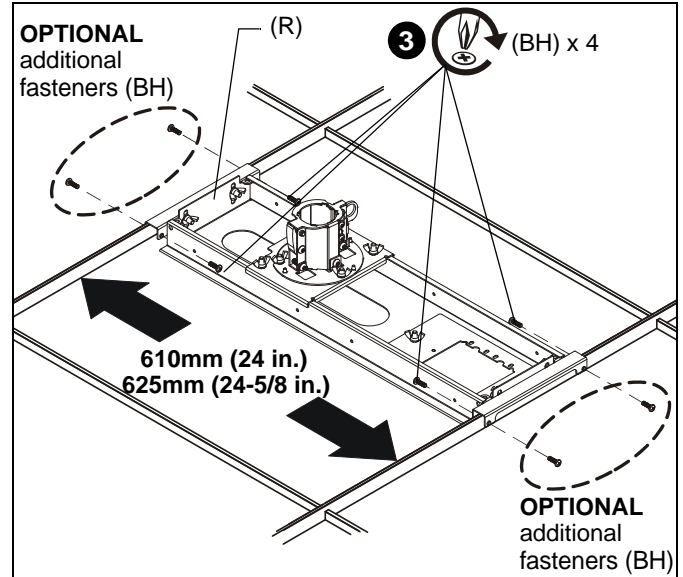
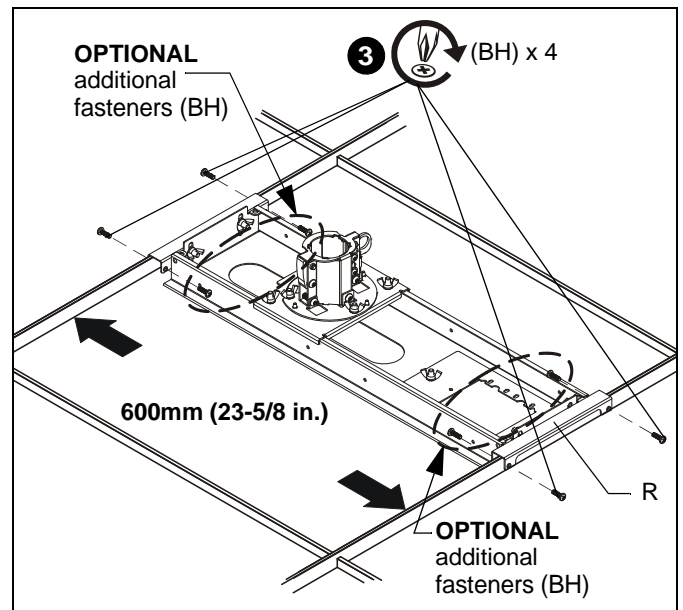

Figure 14
Figure 15
2. **Installing on Top of Existing Ceiling Tile only:** Reinstall ceiling plate assembly (R) on top of ceiling tile so that extension column support is centered over hole in tile.
3. Position ceiling plate assembly (R) with four screws (BH) as required:
- **For 625mm (24-5/8 in.) Framework:** Install screws through end bracket *inside* holes. (See Figure 14)
- **For 610mm (24 in.) Framework:** Install screws through end bracket *inside* holes. (See Figure 14)
- **For 600mm (23-5/8 in.) Framework:** Install screws through end bracket *outside* holes. (See Figure 15)
OPTIONAL: An additional four screws (BH) may be used (if desired) to further secure the ceiling plate assembly in place and prevent any movement. (See Figure 14) and (See Figure 15)